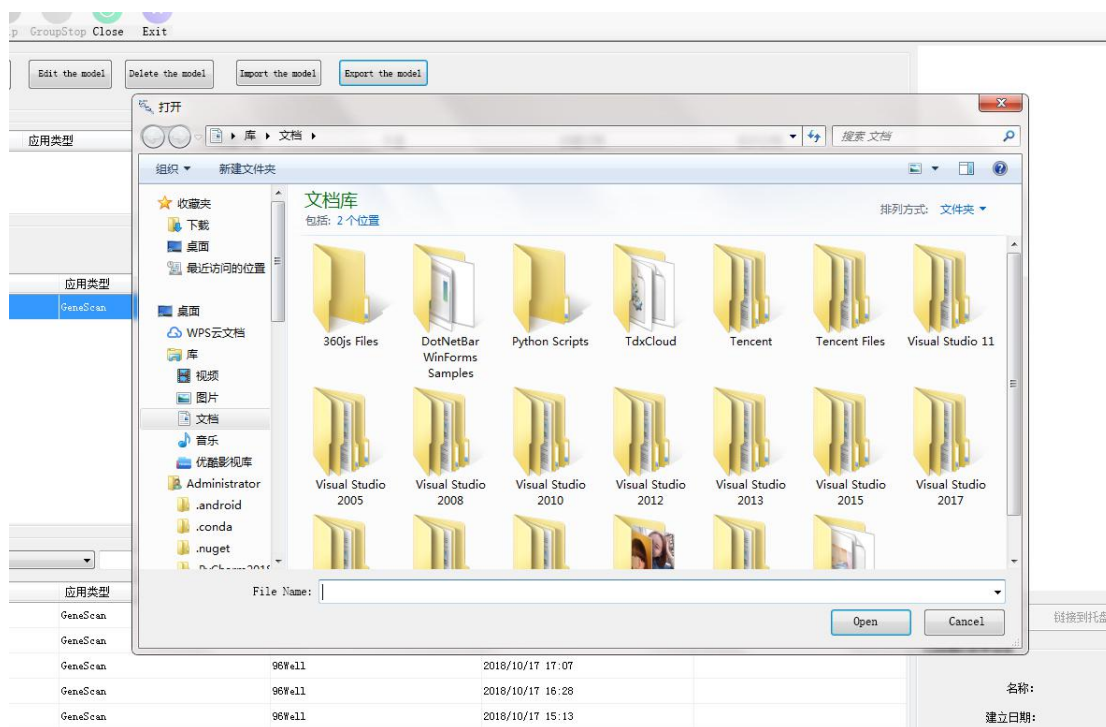

Figure 29. Import the Sample Form
(1) Click "Method Management", "Sample Formulation", "Import the Form" in the menu in turn and the " Import the Sample Form" dialog box pops up, select the type of form to import "Import PLA File" or "Import Punching File". As shown in Figure 29.